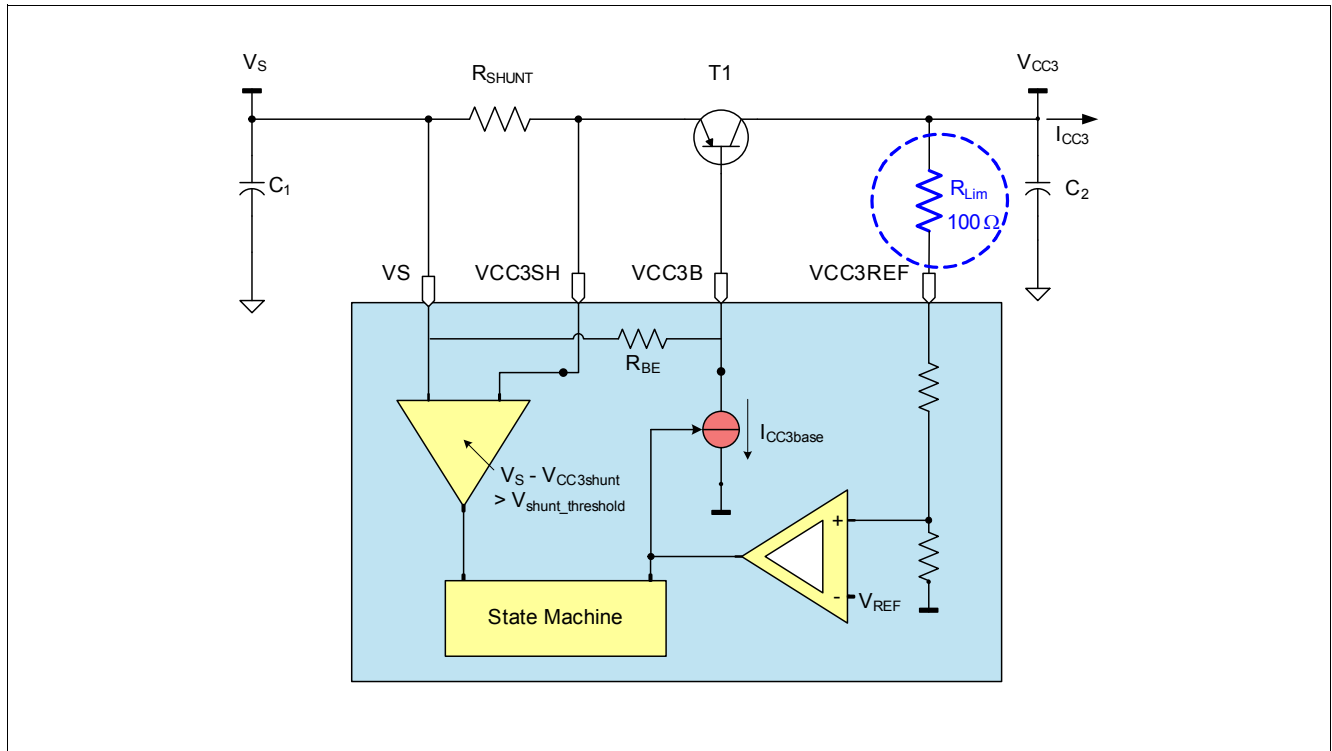

Figure 19 Protecting the VCC3 against inductive short circuits when configured as an independent voltage regulator for off-board supply
*Note: If the VCC3 output voltage is supplying external off-board loads, the application must consider the series resonance circuit built by cable inductance and decoupling capacitor at the load. Sufficient damping must be provided (e.g. a 100Ohm resistor between the PNP collector and VCC3REF with 10uF capacitor on collector - see also **Figure 19**).*